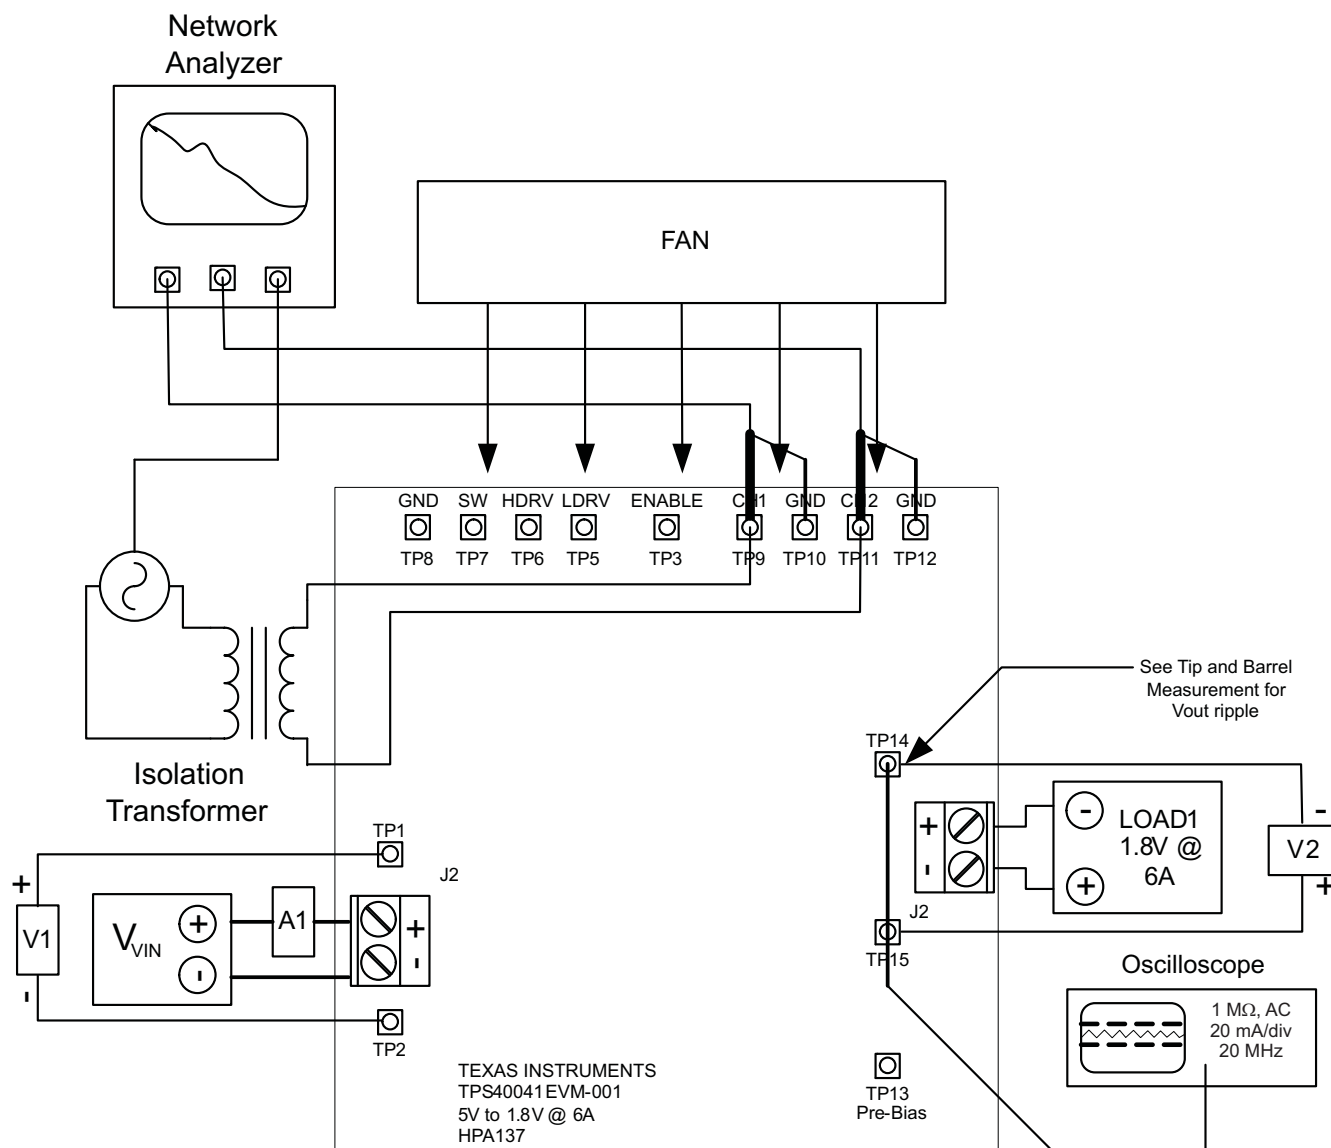

Figure 4. Control Loop Measurement Setup
1. Connect 1-kHz to 1-MHz isolation transformer to TP12 and TP13 as show in Figure 4.
2. Connect input signal amplitude measurement probe (channel A) to TP12 as shown in Figure 4.
3. Connect output signal amplitude measurement probe (channel B) to TP13 as shown in Figure 4.
4. Connect ground lead of channel A and channel B to TP11 and TP14 as shown in Figure 4.